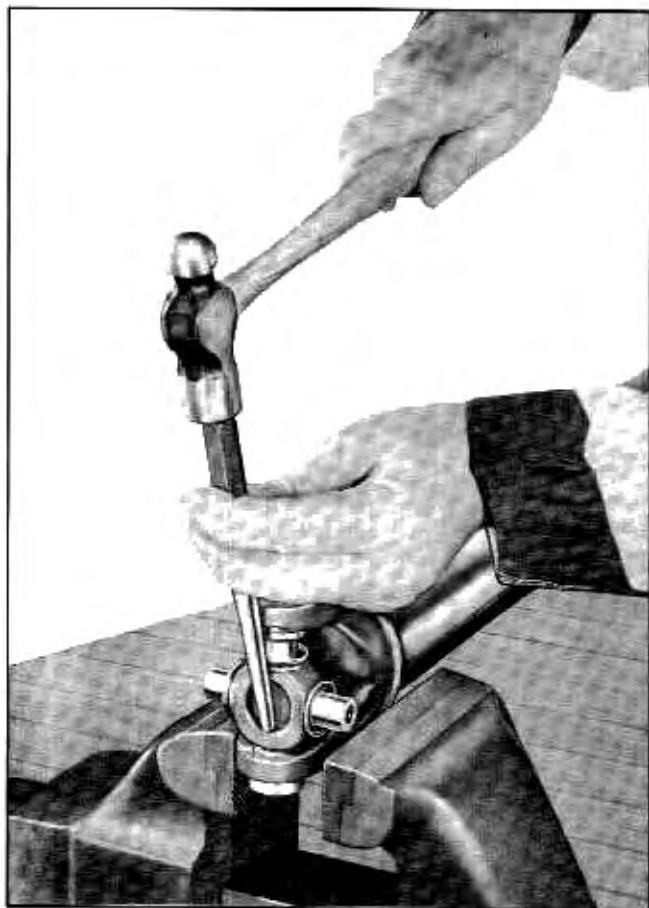

Fig. 4-48 Removing Bearing From Fixed Yoke Member
a. With yoke member clamped or supported in vise, drive bearing out as far as possible using drift applied to center part of journal (Fig. 4-48).